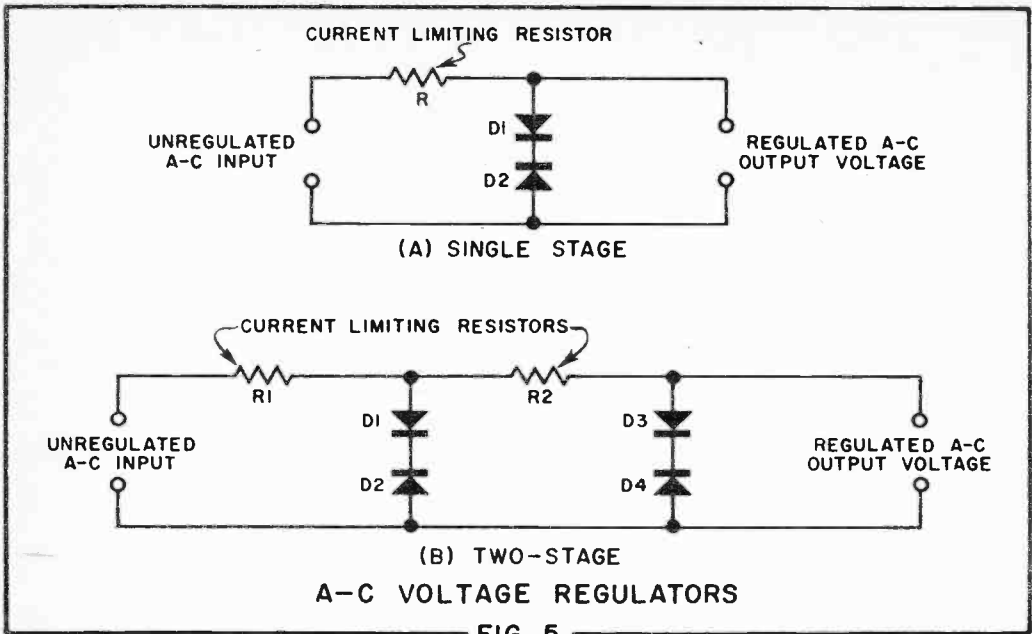

FIG. 5
Fig. 5(A) shows a single-stage regulator, and Figure 5(B) a 2-stage cascaded regulator. Note that the only difference between these and the DC circuits are the double diodes in the AC units. Thus, in Fig. 5 (A), diodes D1 and D2 are connected back-to-back to accommodate both AC half-cycles. In Fig. 5(B), each stage of the cascaded regulator contains two diode pairs (D1-D2 and D3-D4). Either pairs of single diodes or double-anode diodes alone
Similarly, the current given in Fig. 5(A) may be employed as a clipper for limiting both positive and negative peak amplitudes.